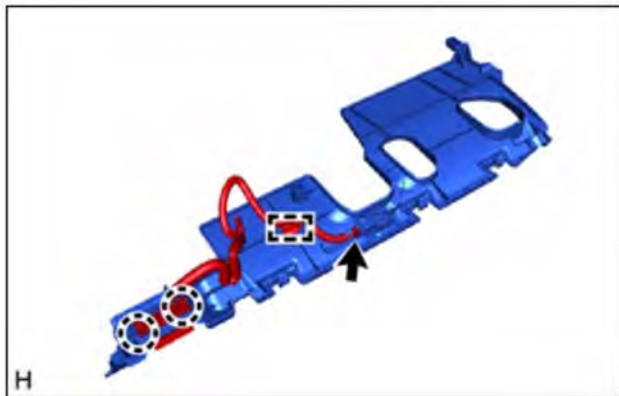

Figure 21
- (1) Disconnect the connector and detach the clamp.
- (2) Detach the claw and remove the DLC3. Figure 21.